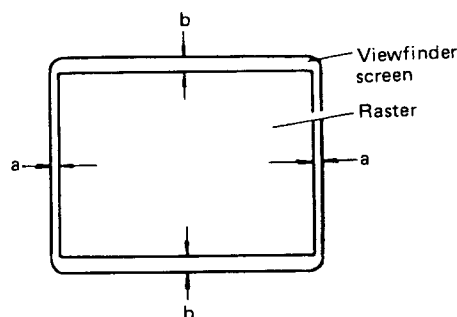

Fig. 5-10-1
- o Adjust the centering magnets so that the raster comes to the center of viewfinder screen. (Fig. 5-10-1)